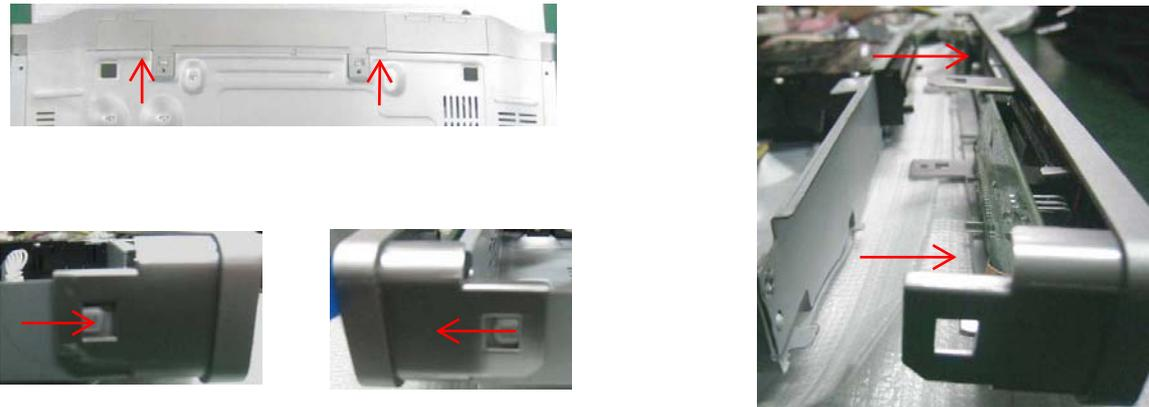

Figure 3
Step3: Dismantling Front Cabinet, need release 2 snaps of Front Panel and 2 snaps of bottom cabinet, then gently pull the Cabinet out from the set. (Figure 3)